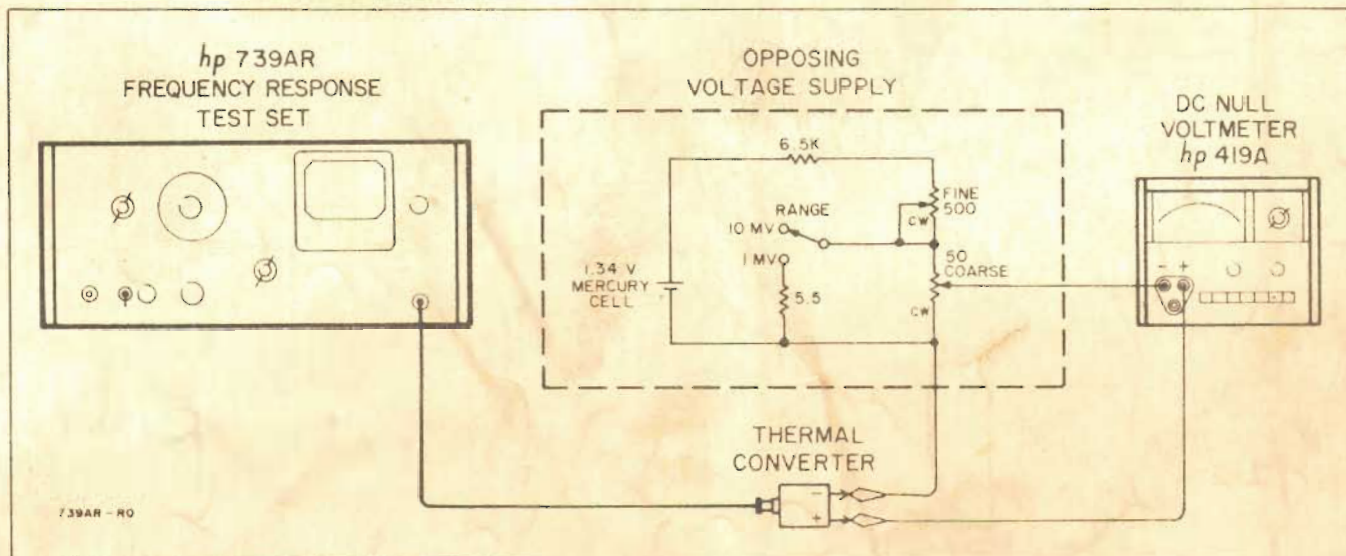

Figure 5-2. Frequency Response of the Monitoring Circuit
- g. Connect the opposing voltage supply to the 419A DC Null Voltmeter as shown in Figure 5-2. (Components are listed in Table 5-1 designated null system.)
- e. Connect the instruments as shown in Figure 5-2 using the opposing voltage supply from components listed in Table 5-1 designated for null system.
- a. Use the test setup shown in Figure 5-2 and the procedure in Paragraph 5-11, steps a through f.